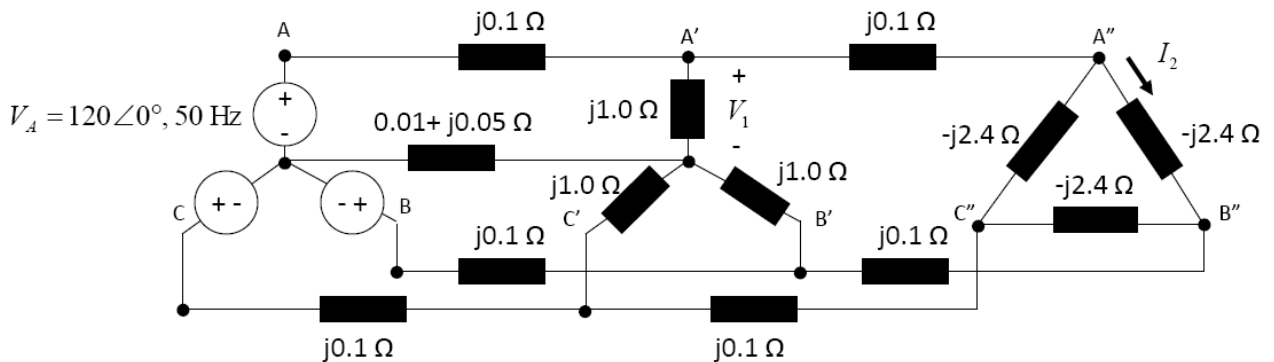

Fig. Q1.1
- a. Consider a three-phase system shown in Fig. Q1.1. If the power is supplied from a positive sequence, balanced three-phase voltage source, determine the voltage $v_1(t)$ and the current $i_2(t)$. Assume a positive sequence system.